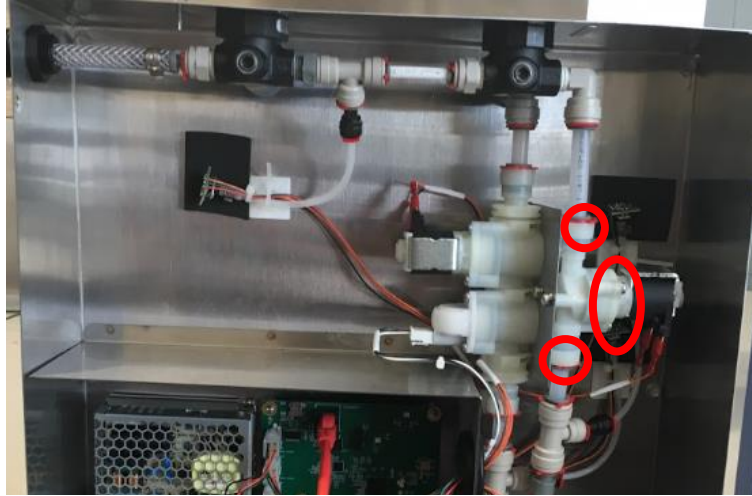

Figure 49: Nitrogen Solenoid Leak locations to test.
- ii. If leak is suspected from Solenoid (Nitrogen Line), apply Soap Water Solution to the Solenoid in locations circled in **Figure 49**. Open both regulators fully and inspect for bubble formation to detect leak. If leak is coming from push to fit locations, first attempt to push the tubes further into the joint; if pushing the tubing in further is unsuccessful in stopping the leak, replace the Solenoid. Refer to **Appendix H: Nitrogen Line Solenoid Replacement** for procedure. Wipe all connections checked with Soap Water once test is complete.